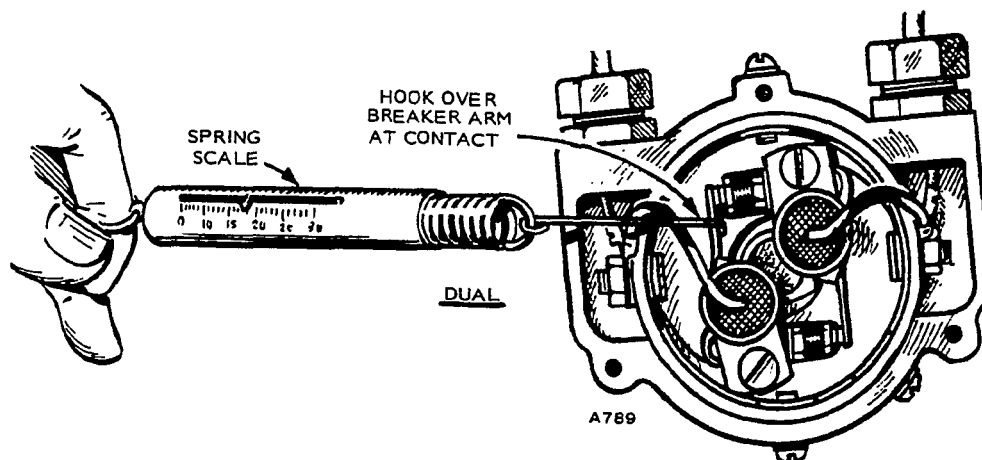

FIGURE 62. POINT SPRING TENSION
9. After aligning the points, check tension of breaker spring with a spring scale hooked on the arm at the contact and held at right angles to contact surfaces (Figure 62). Tension should be 17 to 20 oz. If not, adjust it by loosening screw holding end of contact spring and installing spacing washers or by sliding end of the spring in or out.